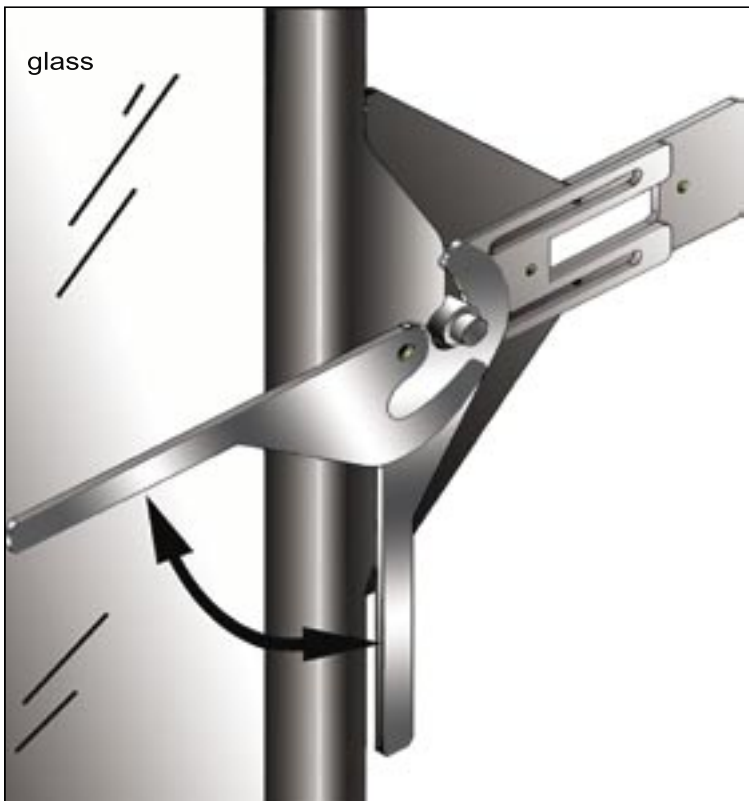

Figure 8. Glass Removal Handle
In order to install the log set, and for regular cleaning, the glass door will need to be removed. With the face off, there are two (2) handles on either side of the glass. They rotate 90° until parallel with the floor (see Figure 8). The top of the glass will move away from the firebox and then the glass door can be lifted off the resting points.